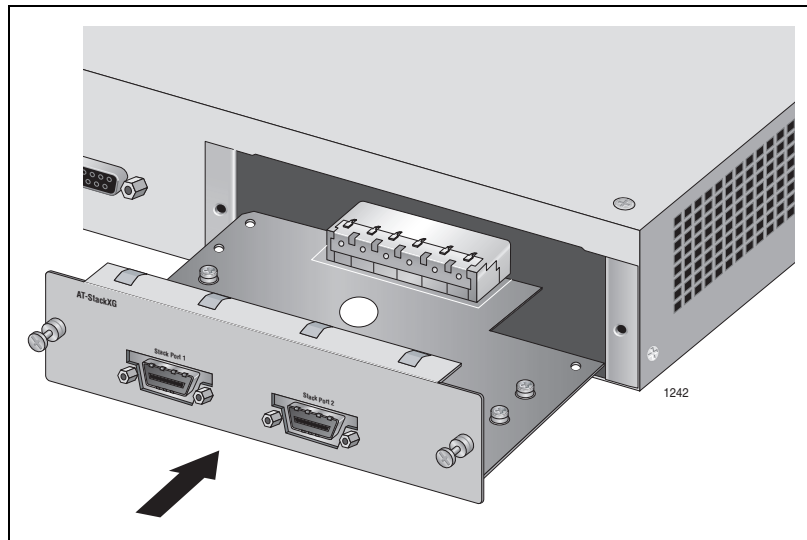

Figure 37. Installing the AT-StackXG Stacking Module
3. Align the edges of AT-StackXG module with the guides in the slot and carefully slide the module into the chassis until it is flush with the rear panel of the chassis, as shown in Figure 37 on page 76. Light pressure may be needed to seat the module on the connector on the rear panel of the chassis.